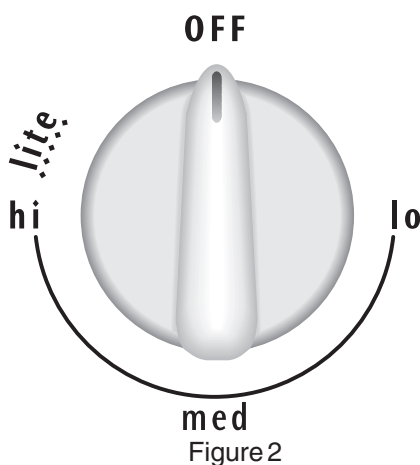

Figure 2
3. Release the knob and rotate to the LITE position (see figure 2). Note: All four electronic surface igniters will spark at the same time. However, only the burner you are turning on will ignite.